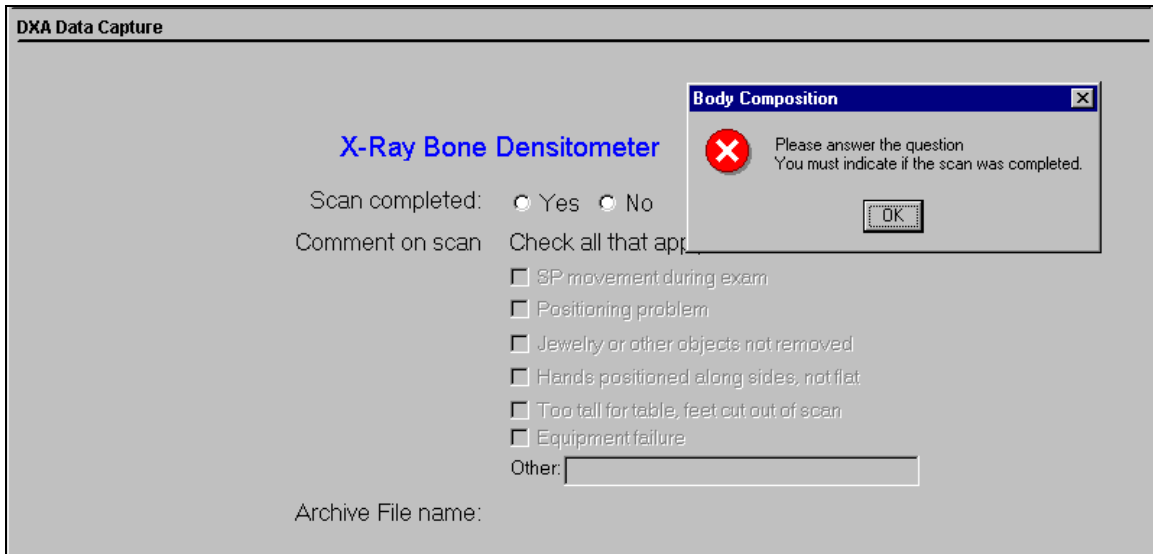

Figure 4-27. DXA data capture (required entry)
- If Yes or No is not checked on this screen, a message will be displayed: 'Please answer the question. You must indicate if the scan was completed.' See Figure 4-27.